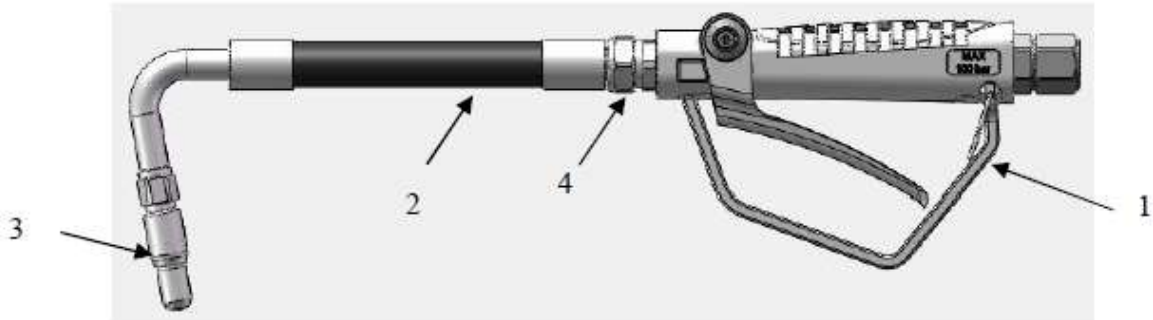

Fig. 2
- a. The reel base has four 0.4" (or 10.5mm) drilled holes for mounting on a suitable flat surface. Figure 2 is a template showing the correct location of the 4 mounting holes in the base.
- b. The reel is supplied with a hose guide roller bracket. The bracket position may be changed depending on the reel mounting position. Figure 2 shows "Typical Mounting Positions". If bracket position needs to be changed, do the following:
- (1) Pull out some hose and let reel latch.
- (2) Remove the bolts that attach the guide roller bracket to the support post.
- (3) Rotate guide roller bracket to correct position, replace bolts and tighten.